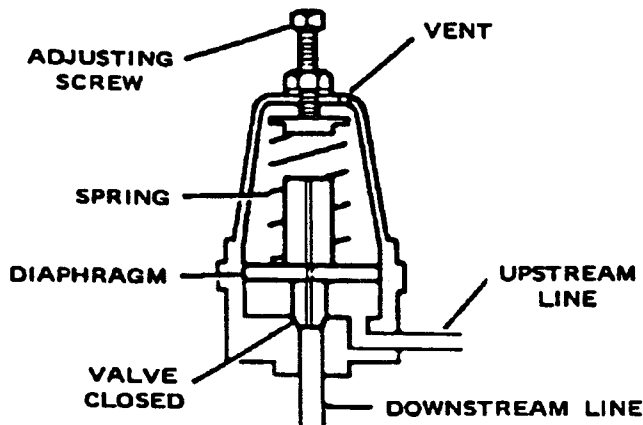
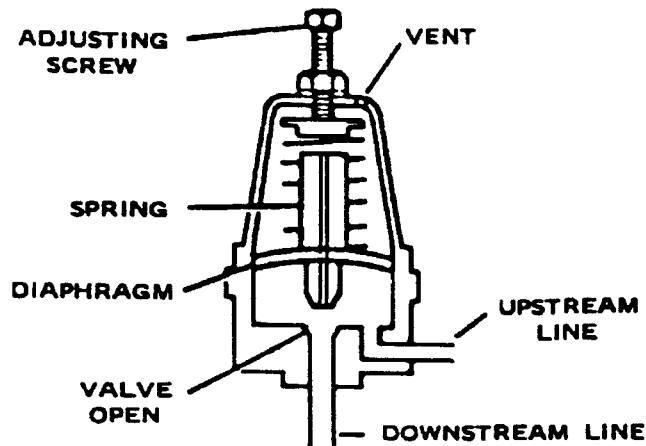

FIGURE 6-4 - SUBTRACTIVE PILOT (CLOSED)
FIGURE 7-4 - SUBTRACTIVE PILOT (OPENED)
Step 4: Press the "AUTO LEAD" button to raise the unload setpoint. Press "AUTO LAG" to lower the unload setpoint. See Figure 7-4.
The load setpoint cannot be set within 8 PSI of the unload setpoint. See Figure 7-4.
Figure 6-4 shows a schematic cross section of the subtractive pilot with the valve seat closed and the downstream line vented. Figure 7-4 shows the pilot with the valve seat open, holding a downstream pressure which is adjustable with the screw. In this position it is normal for the valve to continually bleed air through the small vent hole in the bowl.